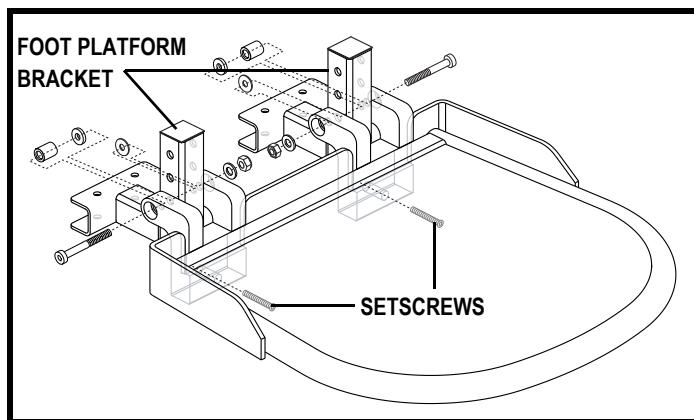

Figure 15. Foot Platform Adjustment
1. Remove the hardware from the foot platform bracket. See **figure 15**.
You can adjust the angle of the foot platform with a hex key. See **figure 15**.